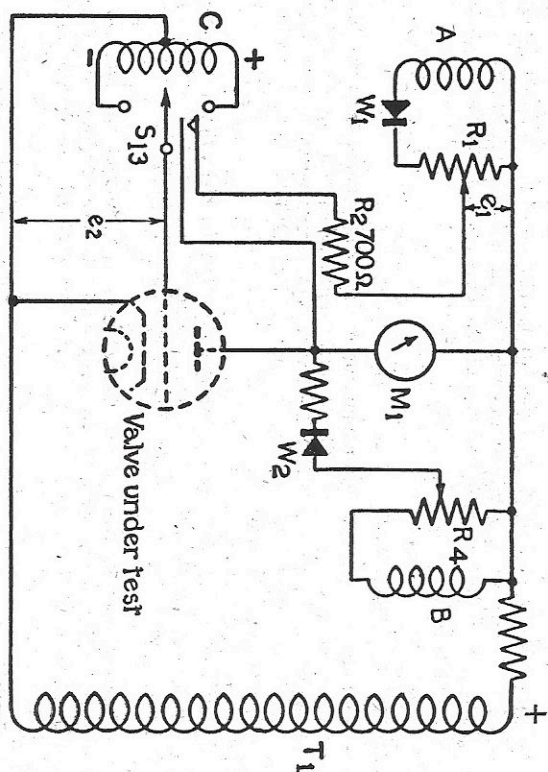
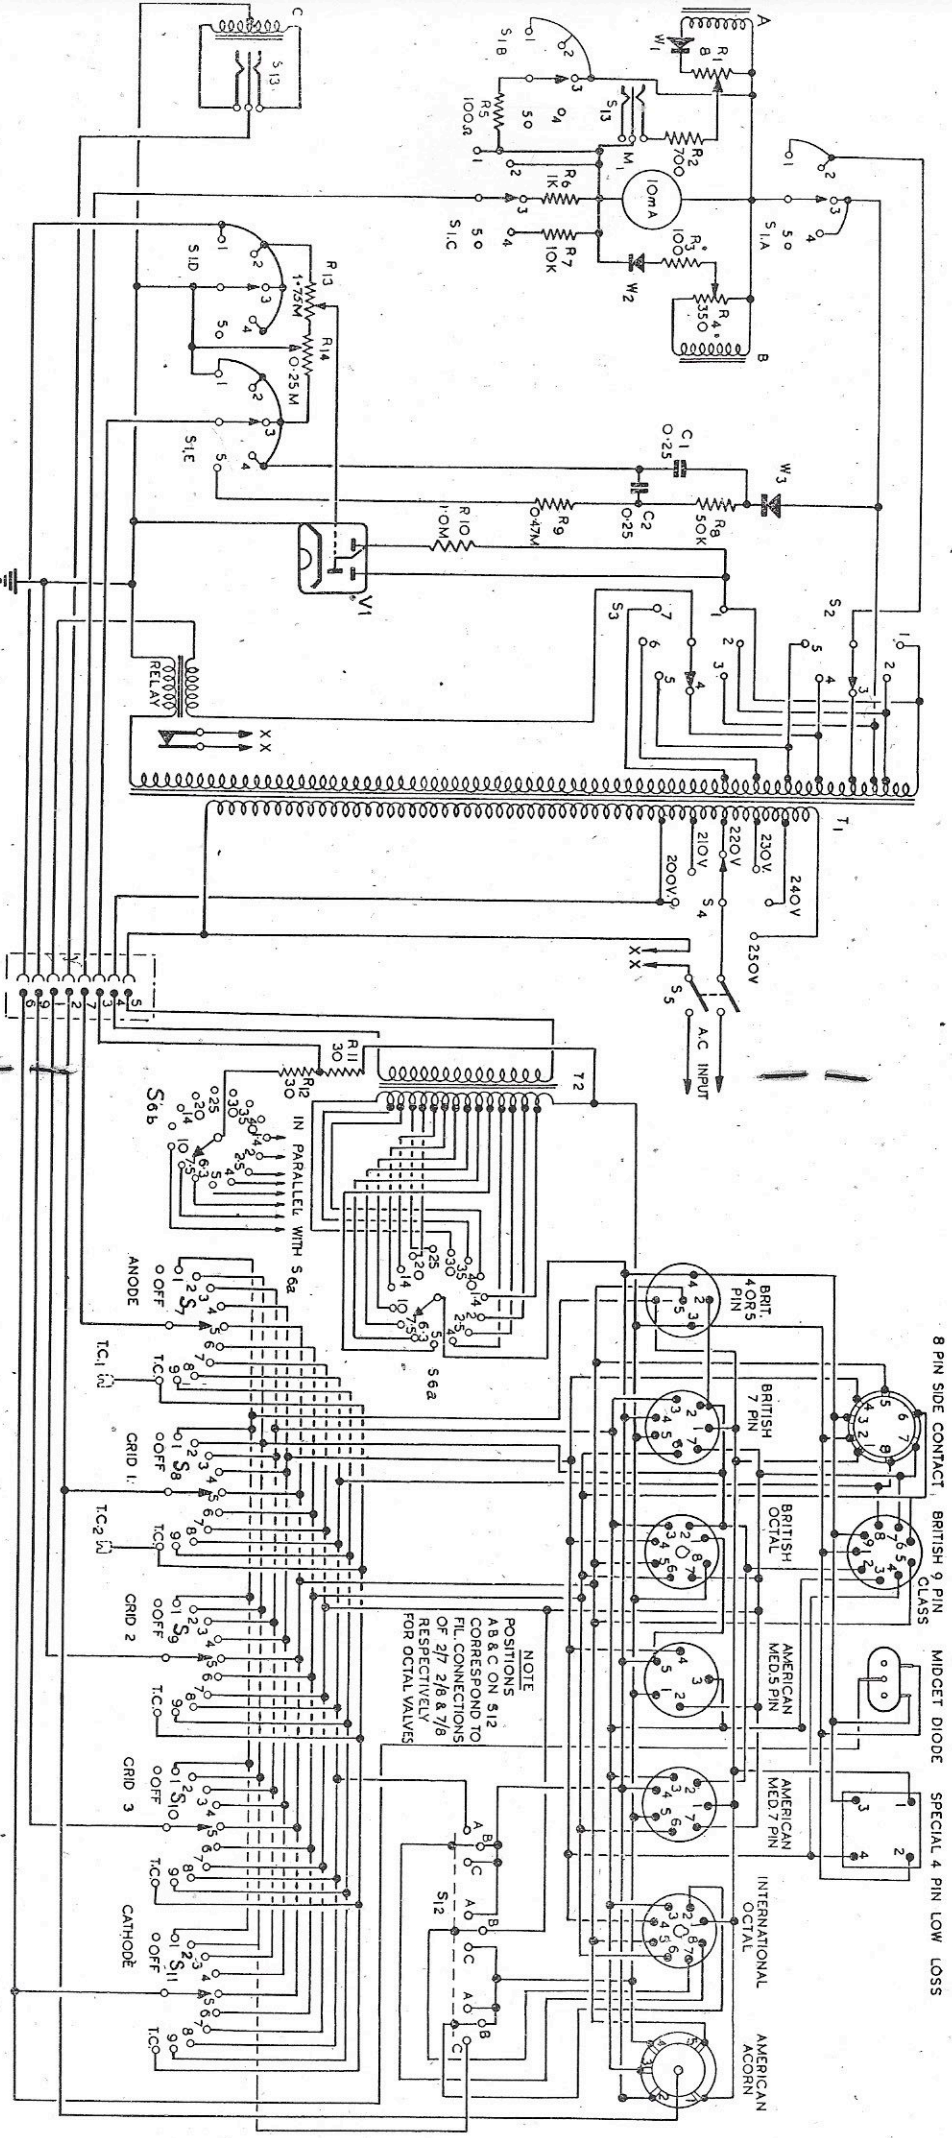

Fig. 2.—Circuit for measurement of mutual conductance
Fig. 4.—Valve tester, type 4A, circuit
5. A theoretical circuit diagram of the valve tester is shown on pages 14 and 15, in fig. 4. All the supplies to the particular valve under test are alternating and are provided by the mains transformer T1; the appropriate voltages being selected by the switches S1a, S1p and S1r. The design of the instrument is such that the mutual conductances measured at the stated voltages are the same as would be obtained if the supplies were D.C.
8. Reference should now be made to the simplified theoretical diagram in fig. 2 by which mutual conductance measurement in this valve tester may be most easily understood.
15. The mutual conductance measurement circuit is connected to the anode of the valve under test by means of the switches  $S_{1A}$ ,  $S_{1B}$ , and  $S_{1C}$ , as shown in fig. 4. The switches  $S_2$  and  $S_3$  select the anode and screen voltages respectively and  $S_{12}$  reverses the phase of the voltage ( $e_2$  in fig. 2) which is applied from winding C to the control grid of the valve.